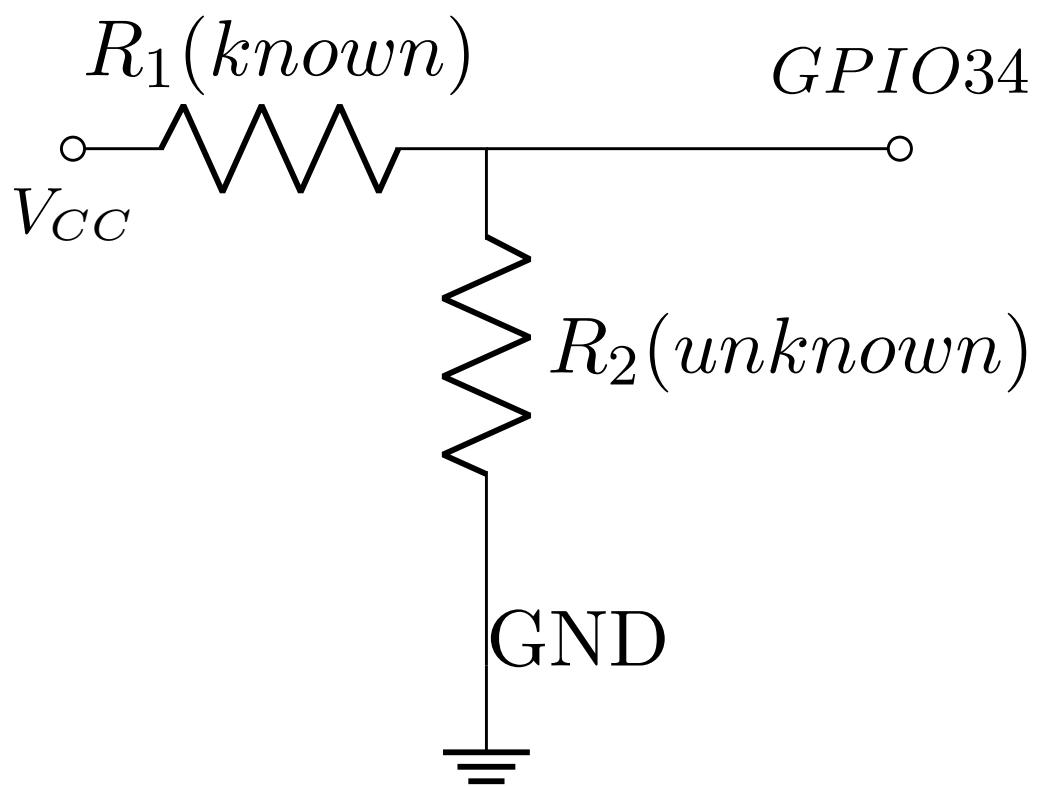

Figure 9.5.3.1: Voltage Divider
9.5.4. The Ohm meter in this manual works on the principle of the voltage divider shown in Fig. 9.5.3.1.